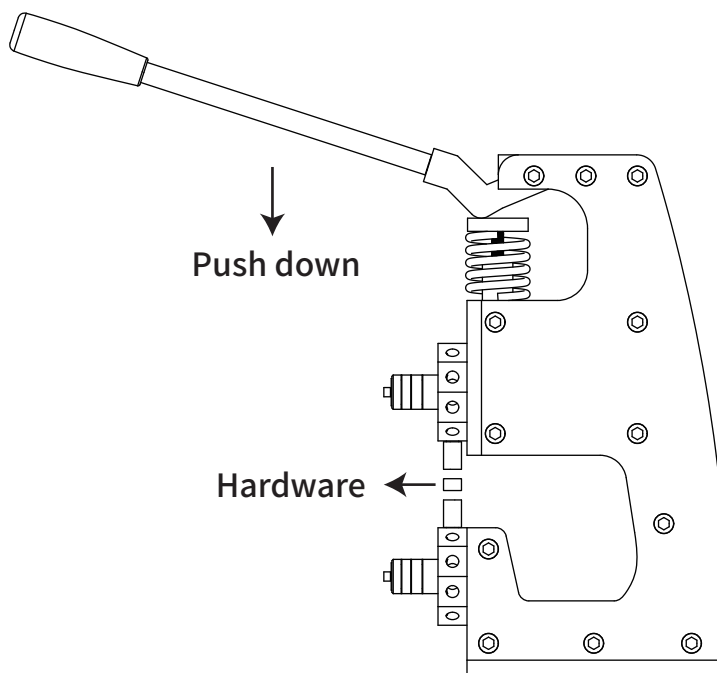

Fig.6
7. Place the hardware between the punch and die, then press down handle (E) to complete the snap/riev setting (Fig 6).